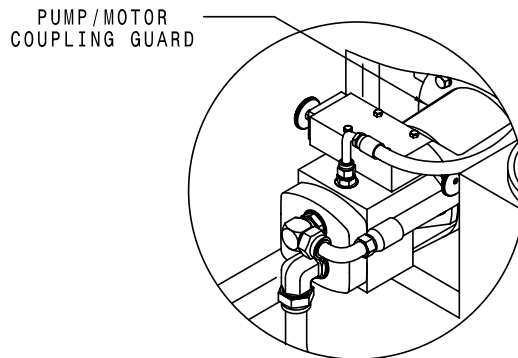

FIGURE 6.4.1 – Pump/Motor Coupling Access
- a. Remove the pump/motor coupling guard. Reference **Figure 6.4.1 – Pump/Motor Coupling Access**.